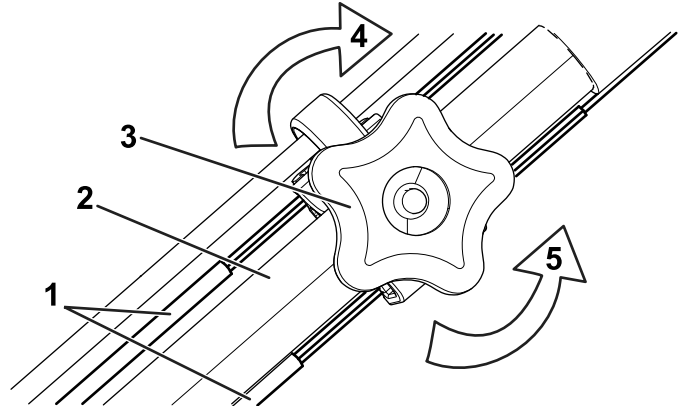

Figure 31
1. Turn the adjustment knob counterclockwise to loosen the cable adjustment (Figure 31).
2. Adjust the tension on the cables (Figure 31) by pulling both of them back or pushing them forward and then holding them in that position, maintaining equal lengths.